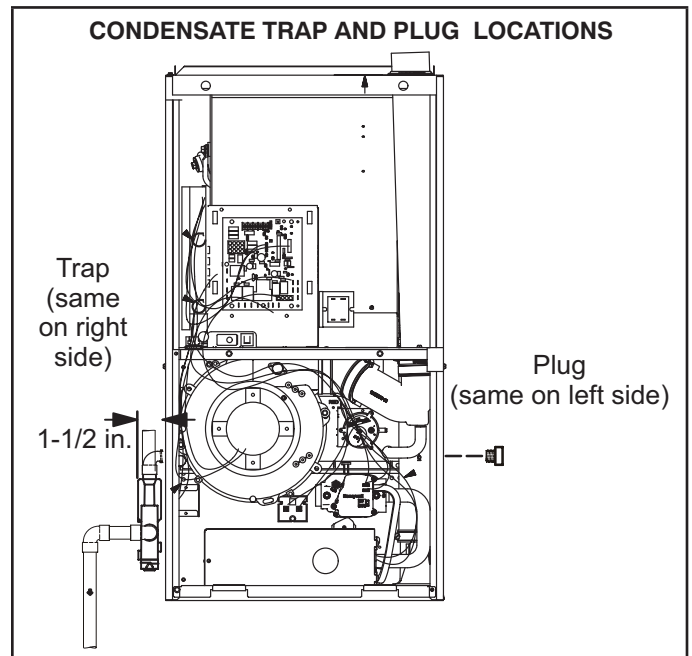
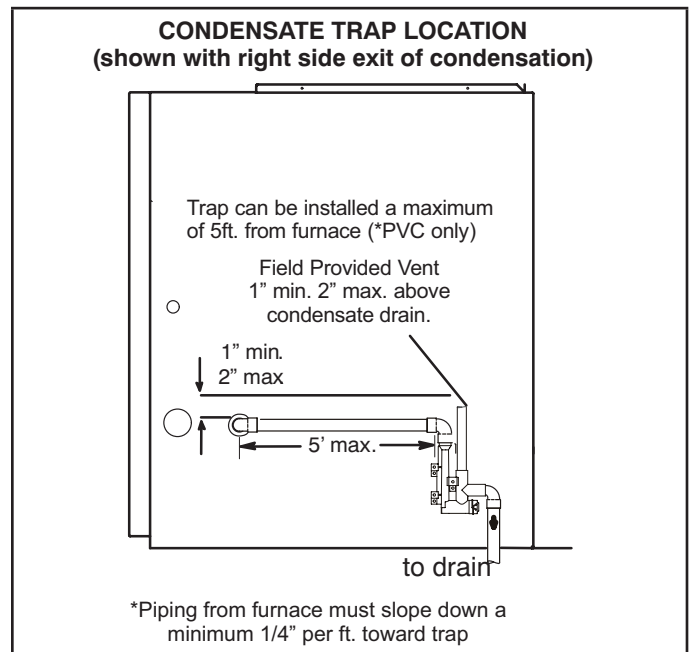

FIGURE 48
FIGURE 50
This unit is designed for either right- or left-side exit of condensate piping. Refer to "FIGURE 48" and "FIGURE 50" for condensate trap locations.
- 2 - Use a large flat head screw driver or a 1/2" drive socket extension and remove plug (figure 48) from the cold end header box at the appropriate location on the side of the unit. Install provided 3/4 NPT street elbow fitting into cold end header box. Use Teflon tape or appropriate pipe dope.